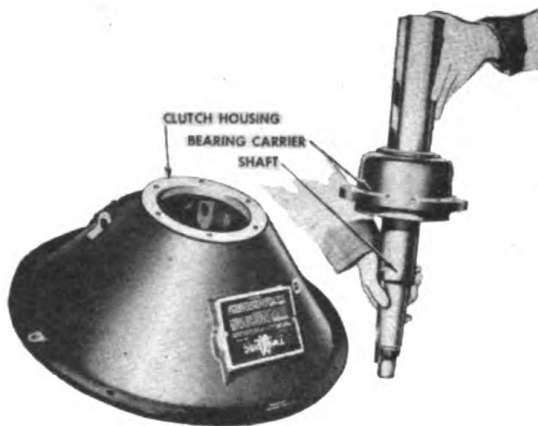

Figure 309. Removing Shaft and Bearing Carrier.
from the clutch housing as shown in Figure 309.
F. Install the shaft and bearing carrier to the clutch housing. See Figure 309.